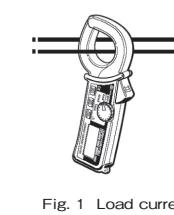

Fig. 1 Load current
(1) Set the Range Selector Switch to the desired position. Current to measure should be within the selected measuring range.
(2) Normal measurement (See Fig.1,2): Press the jaw trigger to open the transformer jaws and close them over one conductor only. Measured current value is shown on the display. Earth leakage current or small current that flows through a grounded wire can also be measured by this method.